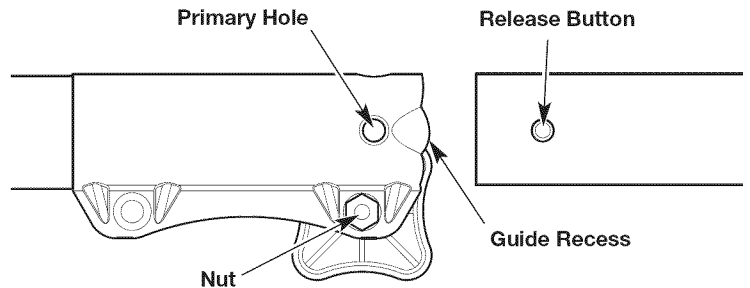

Fig. 4
4. Align the release button with the guide recess (Fig. 4).
5. Push the attachment straight into the coupler until the release button snaps firmly into the primary hole (Fig. 4).
NOTE: Do not tighten the nut (Fig. 4).
3. Press and hold the release button (Fig. 4).